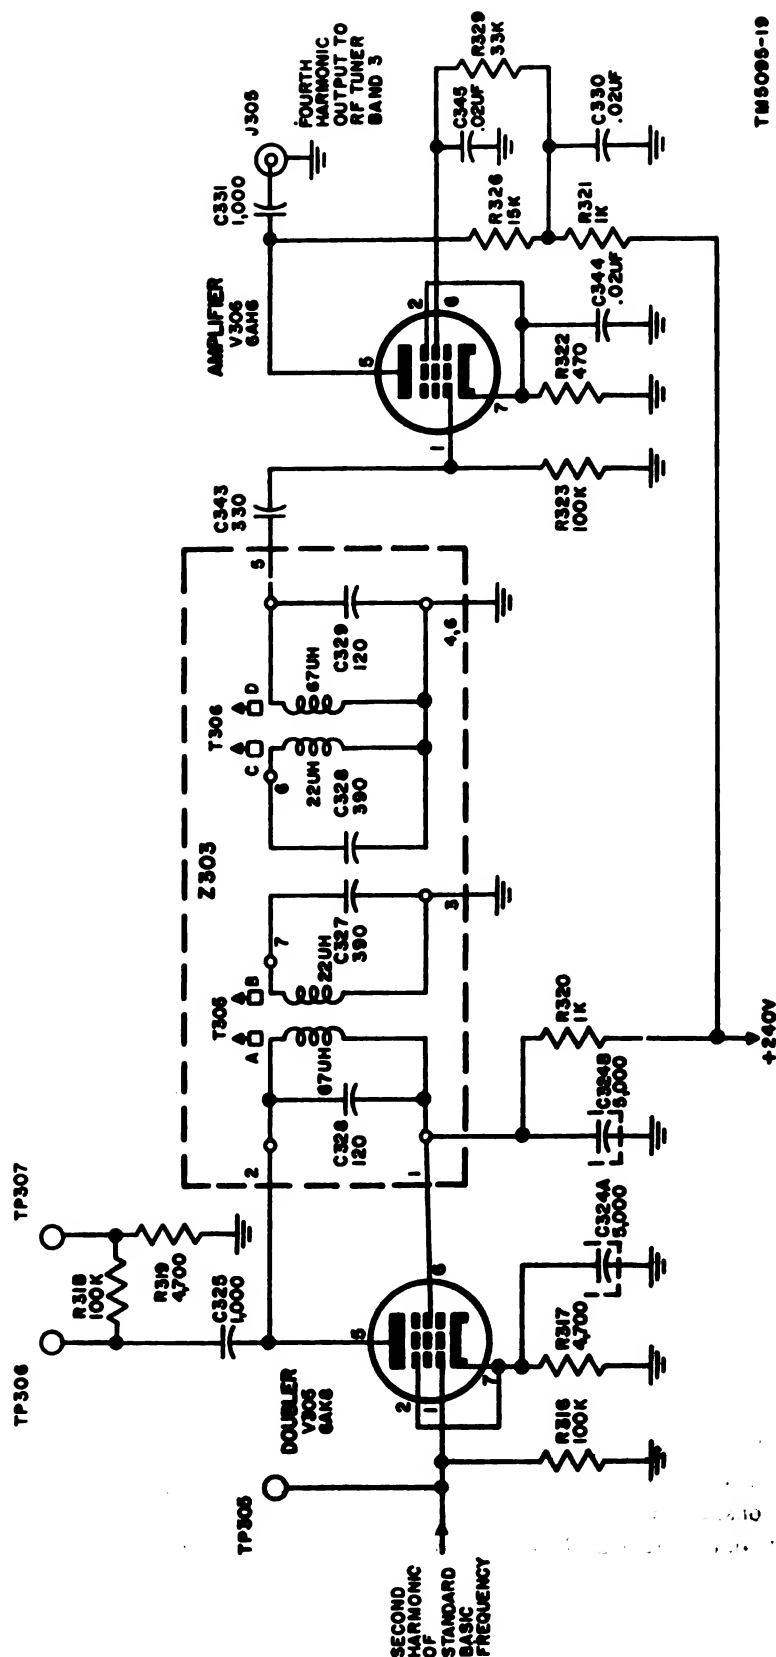

Figure 17. Band-pass amplifier, band 3 circuit, simplified schematic diagram.
c. Band 3 (fig. 17). When the RANGE switch is turned from the 21.7–46.7 MC position to the 46.7–100 MC position, the 240-volt plate supply voltage is applied to the band 3 circuit, which consists of doubler V305 and amplifier V306. The output of the band 2 circuit is now disconnected from the band 2 circuit of the rf tuner, and connected to the grid (pin 1) of V305. The input voltage is developed across R316. Cathode bias is developed by R317 and C324A. Screen and plate voltages are applied through resistor R320, which, with C324B forms a decoupling network. The quadruple-tuned network Z303 produces a symmetrical output curve with steep skirts and a relatively flat top centered at 1,700 kilocycles, which is the center of the band of fourth harmonics of the standard basic frequency. The result is that the fourth harmonic of the standard basic frequency (second harmonic of the input signal to this stage) is passed, and the other signals present in this stage are attenuated 100 db or more. The output of the network is coupled through C343, and the voltage developed across grid resistor R323 is applied to the grid of output amplifier V306. This stage provides both power gain and harmonic accentuation. Cathode bias is provided by R322 and C344. The plate load resistor is R328. A decoupling circuit is formed by R321 and C330. Screen